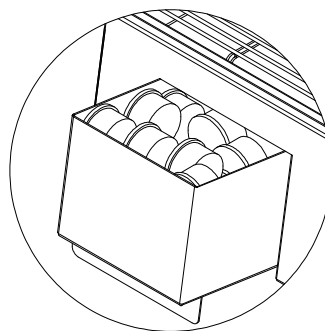

fig.2
When the door (G) is closed, the pusher connected to the door pushes the new capsule. This in turn expels the previous one which falls into the capsule collection tray (F) (fig. 2).
- The capsule can only be positioned inside the appliance by means of the pusher on the door (G).
- NEVER open the door (G) while delivery is underway.
- An excessive quantity of capsules in the capsule collection drawer (F) (fig. 2) could jeopardise/damage internal components!! The capsule collection drawer should therefore be emptied every 35 capsules.